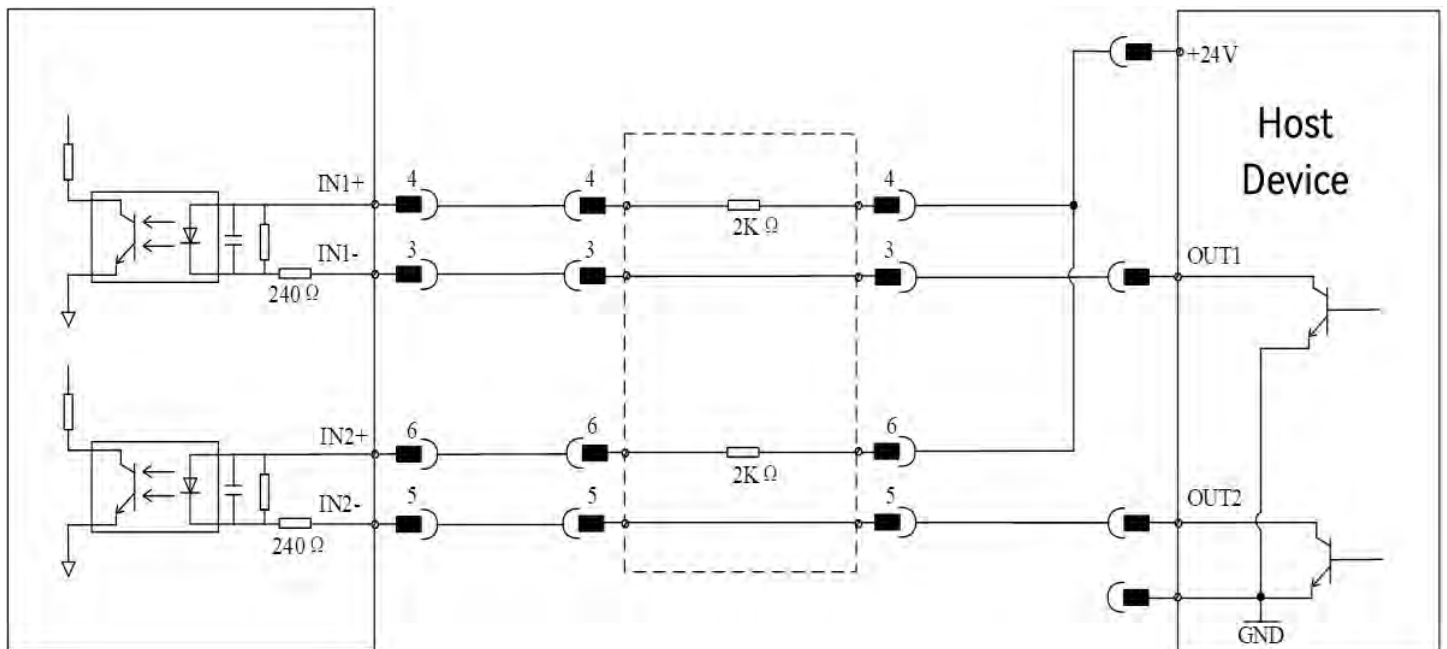

Figure 6-11 Universal digital input DI terminal wiring diagram
(1) Universal digital input DI terminal (as shown in Figure 6-11):